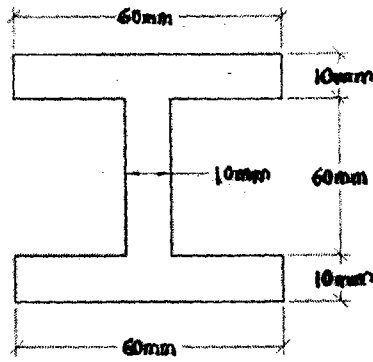

Figure 13/Gambarajah 13
- (iii) Determine the bending moment that will cause a maximum strain 72MN/m^2 in the I-beam shown in **Figure 13**.